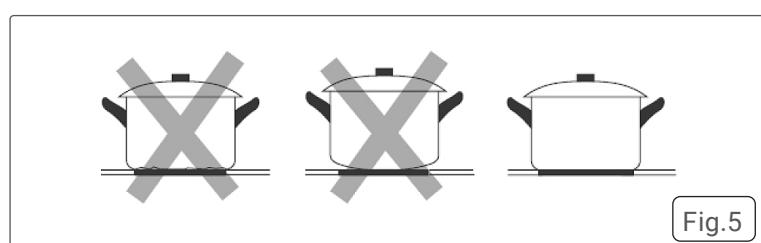
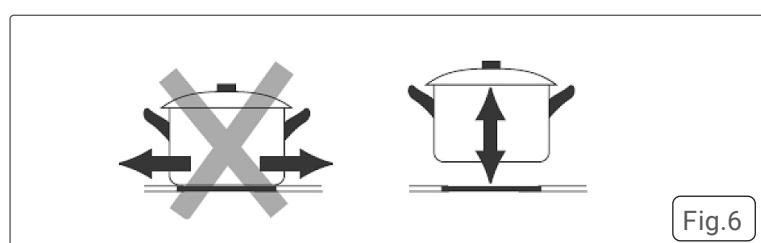

Fig.5
Fig.6
- DO NOT** use cookware with jagged edges or a curved base. Ensure that the base of the pan is smooth, sits flat against the glass surface, and is the correct size for the cooking zone. Always centre your pan on the cooking zone. See fig.5. When moving pans, always lift them, **DO NOT** slide, to avoid scratching the glass. See fig.6.
- **TO START COOKING** (See fig.6)
1. Power On: Touch the **ON/OFF** ① switch. All the indicators will show "-".